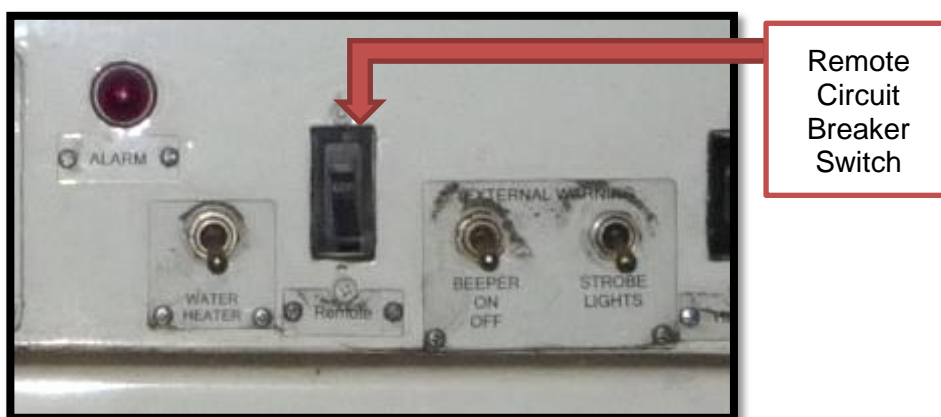

Figure 25: Remote Circuit Breaker to be closed
11. Check that the Remote Circuit Breaker is “off” (*Figure 25*).